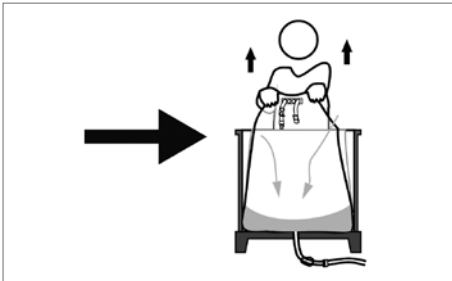

Fig. 22
3. The bag collapses as it is drained. The sloped bottom of the Palletank®, and the position of the drain hole, provide nearly 100% fluid recovery. This efficiency can be improved by lifting the bag at the end of the operation (see Fig. 22).